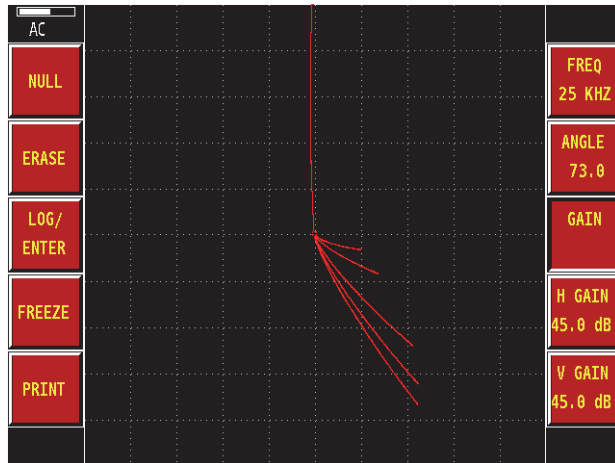

Figure 4-1 Conductivity curve
6. Touch the probe to the middle of each of the six conductivity samples. The display should look like Figure 4-1 on page 69. Some fine tuning may be necessary. This is accomplished by using the **GAIN** and **ANGLE** buttons, and then the SmartKnob.